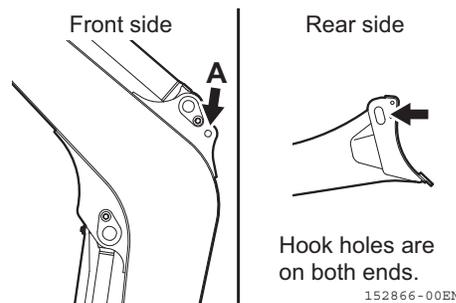

Fig. 4-6
5. Pass a sling belt (or wire rope) through the portion (Fig. 4-6, A) on the boom.